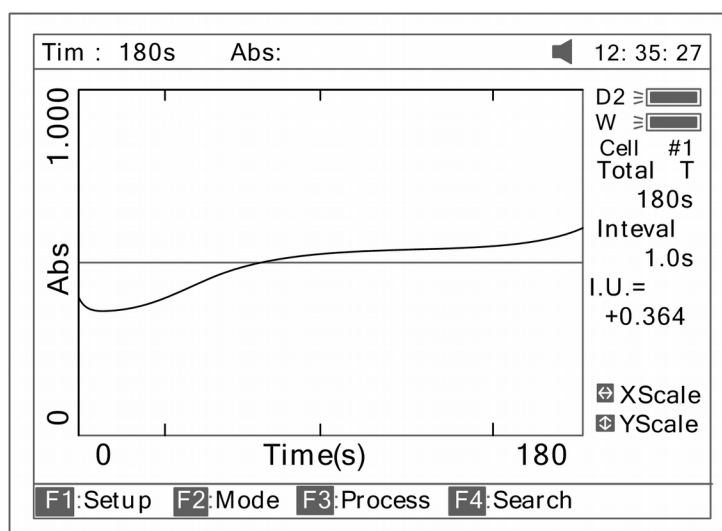

Fig 56
4. Pull the sample cuvette into Main Light Path, press **(START)** to scan the sample. After the delay time, the beeper beeps 3 times and time -scan starts. At the end of the time-scan, the beeper also beeps 3 times (Fig 56);
Press the key **(SAVE)** to save curve. Note: Load/Save requires the first kinetics display page Fig. 56. Press ESC if in Search to return to the required page.